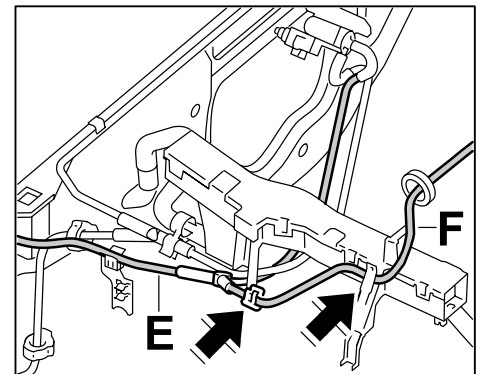

Figure 17
- 5.7 Clip the vacuum lines ⇒ *Figure 17-arrows-* into the cable duct.